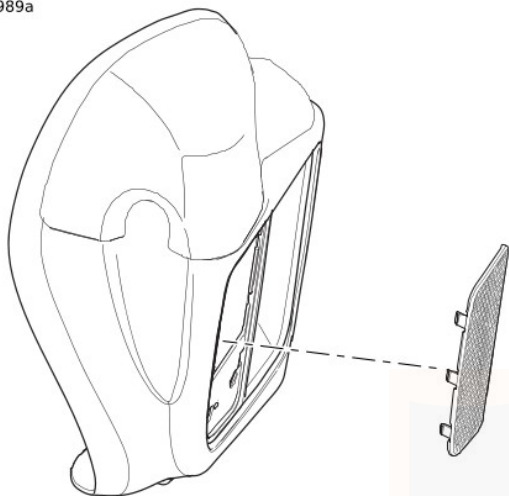

Figure 75. Lower Fairing Grille Panel
1. See Figure 75. Remove outer grille from lower fairing.